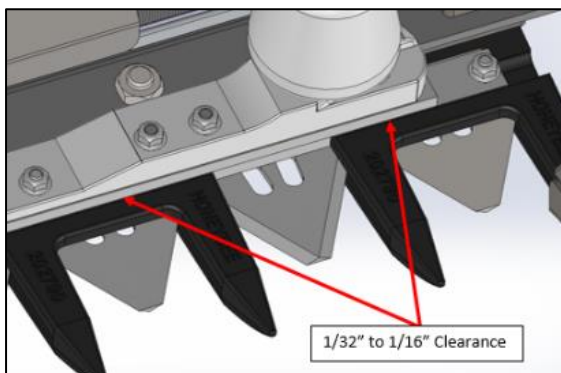

Figure 98
7. Clearance between the guard and the knife back should be $1/32$ " to $1/16$ " Figure 98